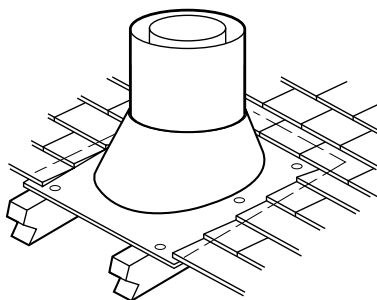

Figure 31
Step 7. Secure flashing by nailing along the perimeter into roof using 8d nails. If shingled roof, slide upper end and sides of roof flashing under shingles (trim if necessary), seal the top and both sides of the flashing to the roof with roof caulking. Cover nail heads with roof caulking (*Figure 31*).